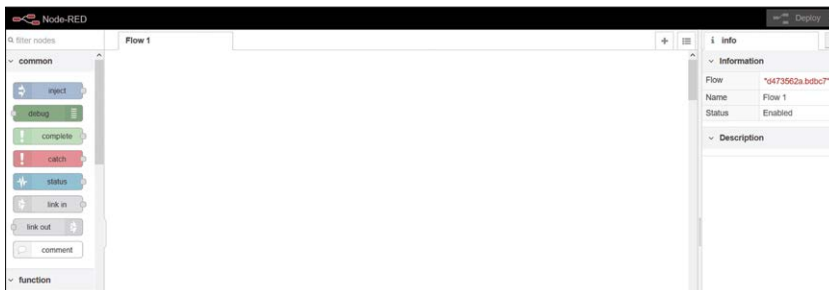

Figure 13.3 Node-RED startup screen
- You should now see the Node-RED startup screen as shown in Figure 13.3 (only part of the screen is shown here).